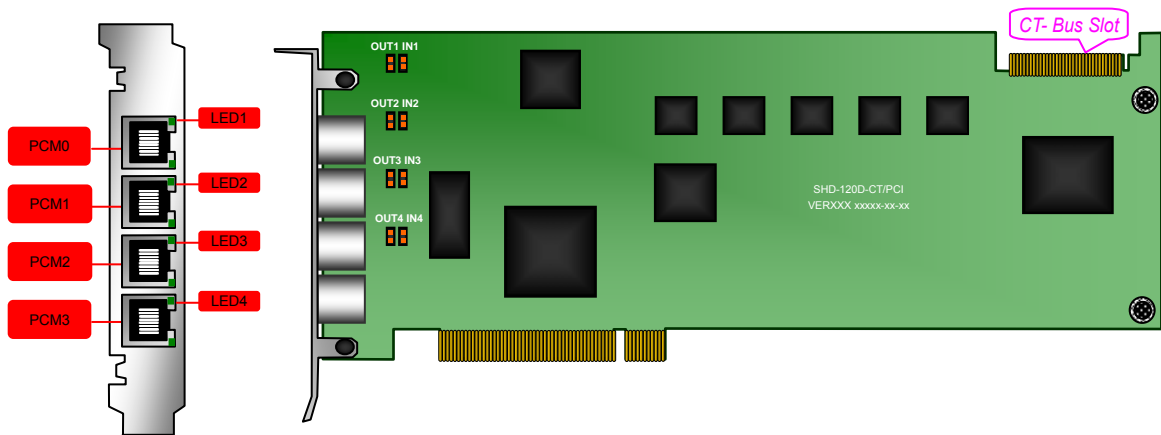

Figure 2-1 Left and Front Views
1. In Figure 2-1, PCM0~PCM3 respectively indicate the 4 trunk interfaces while LED1~LED4 represent their synchronization indicators;